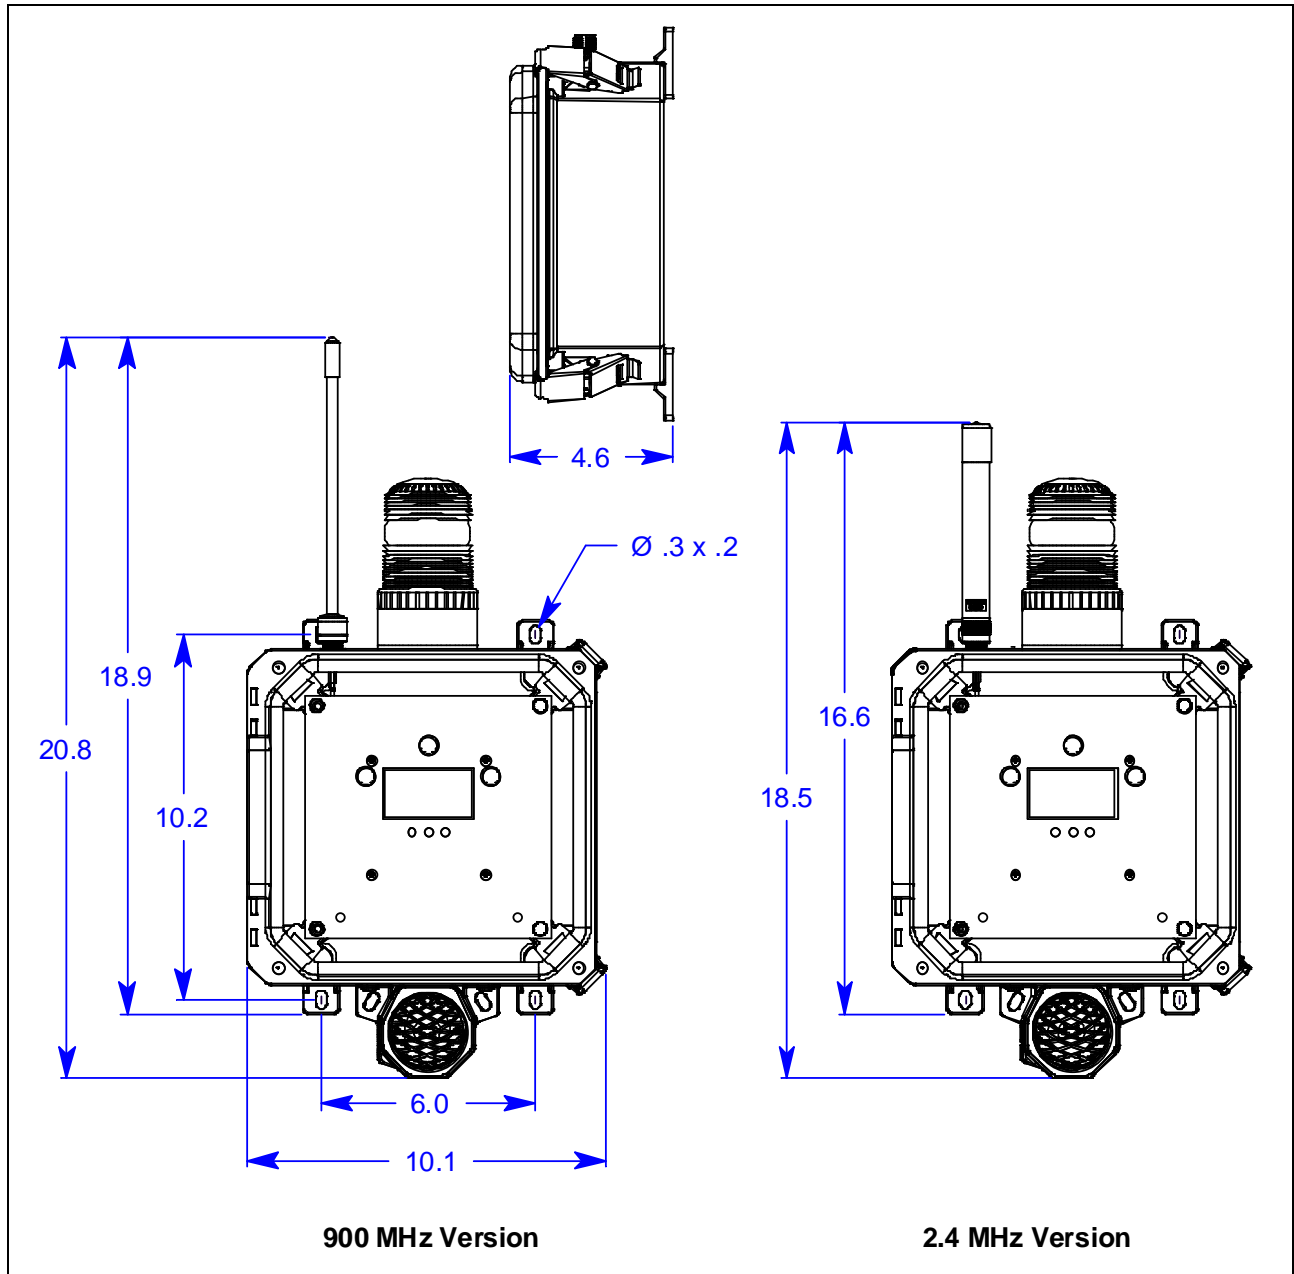

Figure 4: Outline and Mounting Dimensions
3. Prepare the selected mounting site as required to mount the AirLink 7543. It should be mounted at eye level (4 1/2 to 5 feet from the floor). Refer to Figure 4 for the outline and mounting dimensions.